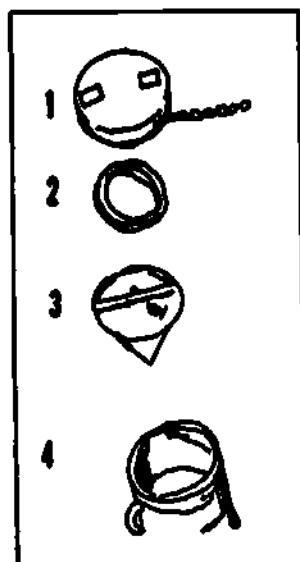
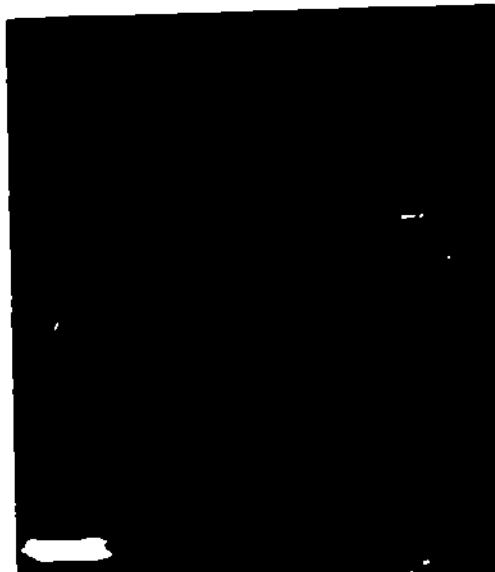
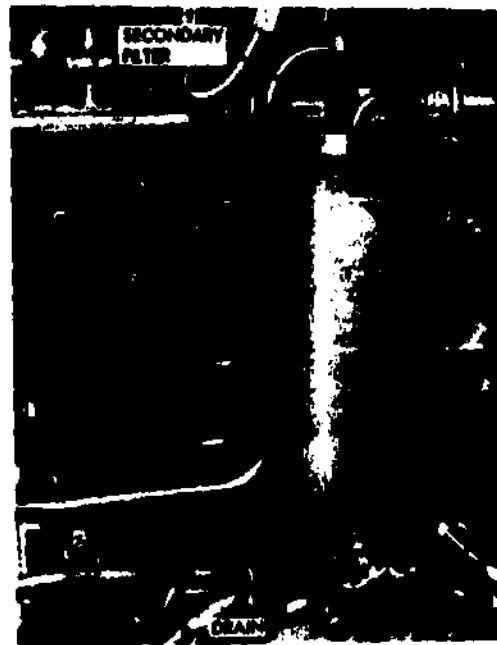

Fig 2-116. Fuel tank cap, filter, and filler pipe.
Fig 2-118. Primary fuel filter.
Fig 2-119. Secondary filter.
Now take a look at the filler cap. Visually inspect the cap (1, fig 2-116) to insure that the small chain is attached to the filler pipe. The chain prevents loss of the cap. Next, look at the underside of the cap to insure that the gasket (2, fig 2-116) is in good shape. It insures a good tight seal between the filler neck and cap. The fuel filter (3, fig 2-116) can be removed from its normal position which is just a little below the top of the filler pipe (4, fig 2-116). When you remove it, visually inspect it for holes and clean it if there is any accumulation of dirt. The filter can be cleaned by using air pressure and directing it from the opposite end in which the fuel is put in the tank. All filters may not have the same shape but they all serve the very same important purpose, preventing foreign material from entering the tank. If holes appear in the filter, it should be replaced.
c. Fuel filters. If dirt or other substances get into the fuel, your vehicle could be in trouble. Most vehicles have some type of fuel filter. It might start off with just a simple strainer in the gas tank filler neck (fig 2-116). Other vehicles have two filters, the first one being called the primary filter (fig 2-118) and the second one called a secondary filter (fig 2-119). Other vehicles have a glass bowl type filter (fig 2-120). The strainer type filter is easily cleaned of dirt and replaced as it starts to deteriorate. The primary and secondary filters should be drained (1/2 cup) daily before operations and on the weekly. If possible, the fuel drained should be drained into a container so that the fuel can be checked for water and other contaminants. In cases of high rust content or excessive foreign matter, filters may have to be changed. After visually inspecting the fuel if you think that the filter should be changed, notify your supervisor for corrective actions.